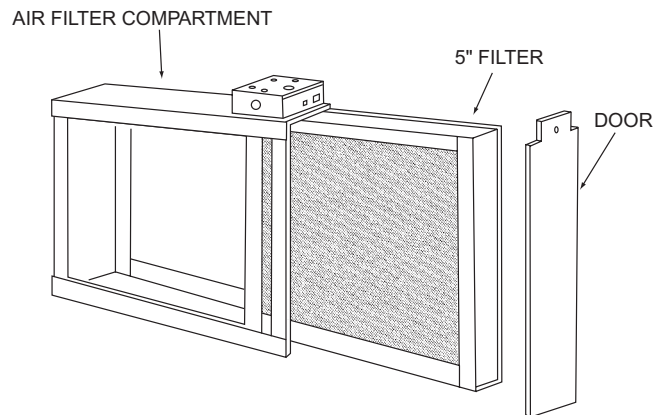

Figure 2
Not only is your air filter compartment easy to install, it is also easy to maintain. Its basic components, and their functions, are as follows: (See Figure 2)
1. Place the air filter compartment on the floor. Stand it upright with the door facing you (Figure 2). If a horizontal installation is being planned, lay the compartment on its side, this will help you to visualize the relative location of all parts.
7. With the air filter compartment installed, re-install 5" filter and door. (Figure 2)